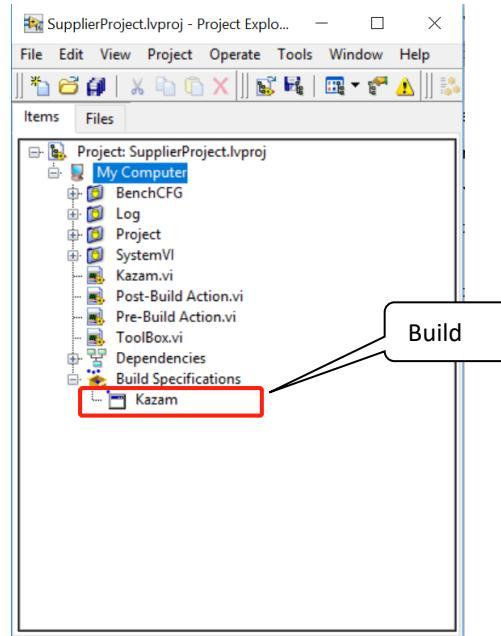

Figure 45
9. Build the Labview project, as Figure 45